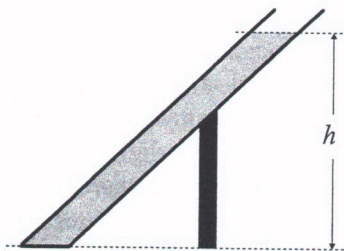

Figure 4.70
20. What is the pressure at the bottom of the fluid in the container shown in Figure 4.70 if the angle between the container wall and the horizontal is α ? Most of the fluid in this container is not vertically above the bottom surface of the container. Explain how hydrostatic pressure is transferred to that bottom surface in this container.